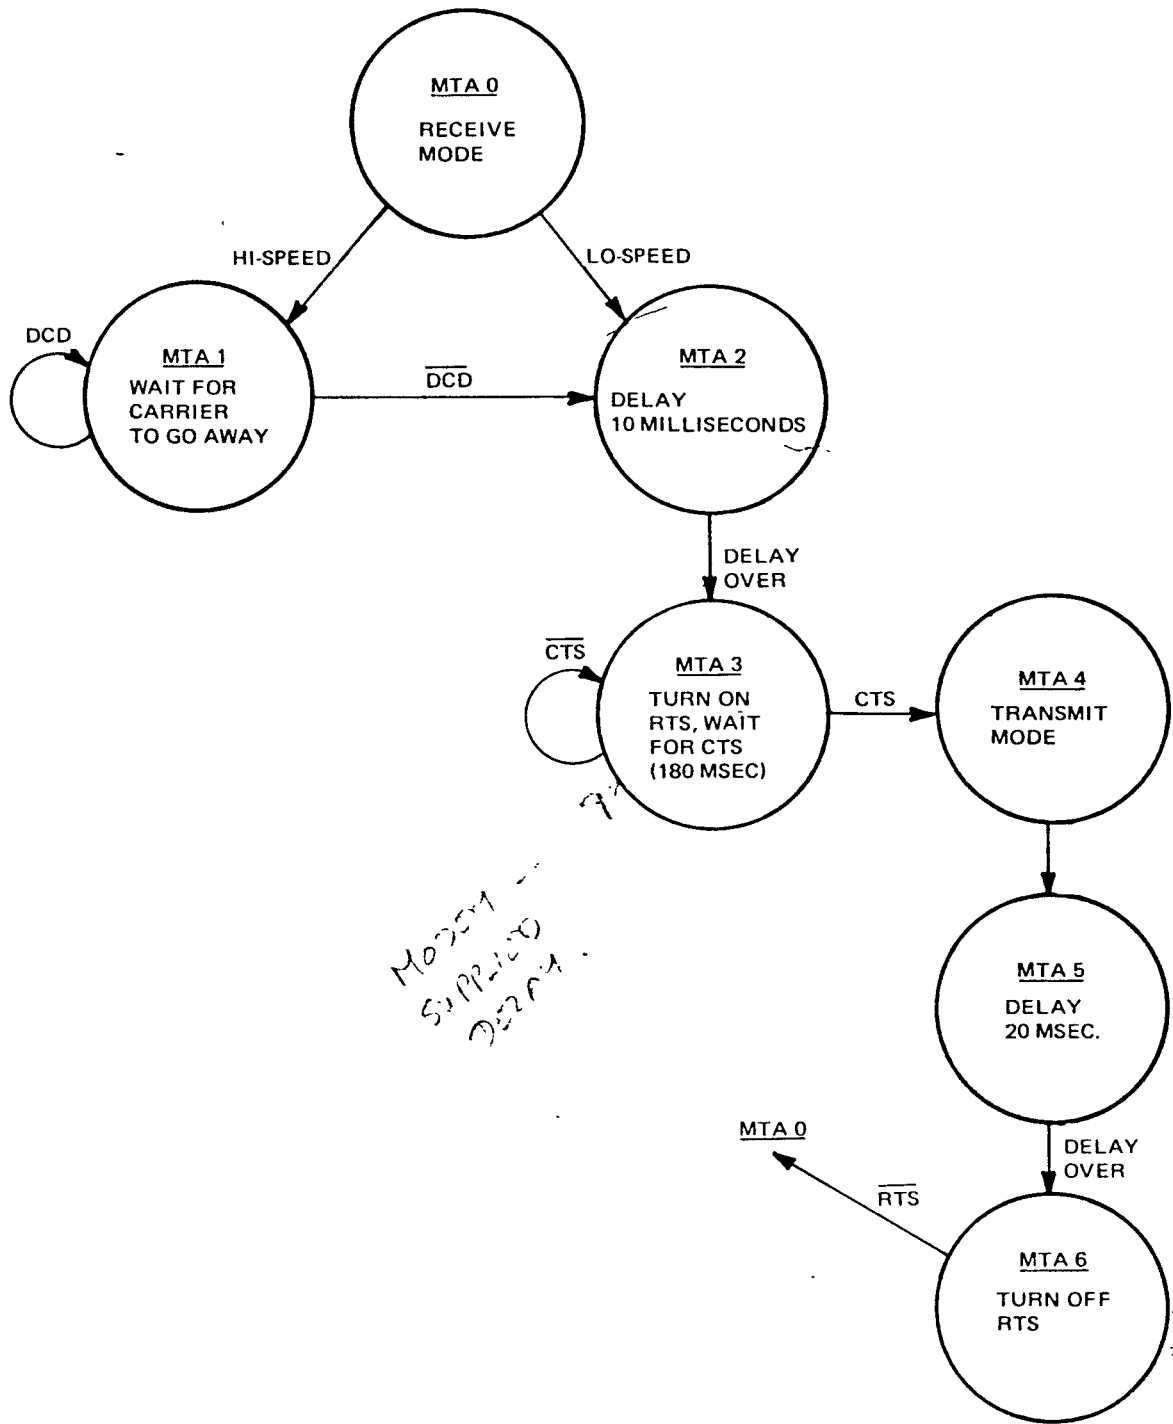

FIGURE 3-1.6. MODEM TURNAROUND (MTA) STATE DIAGRAM
d. Modem-Turnaround. The modem-turnaround (MTA) function described below applies to both blocked and nonblocked communication. The sequence followed is shown in Figure 3-1.6.